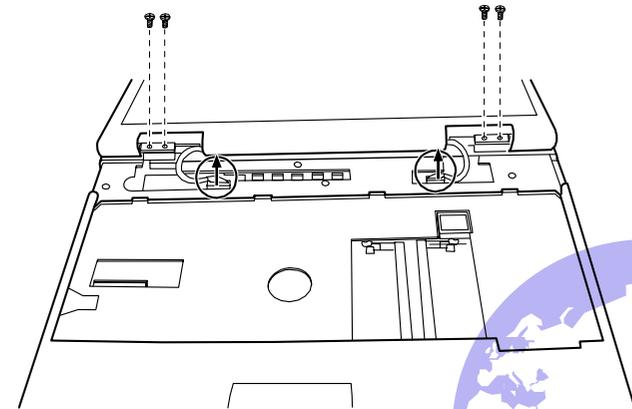

Figure 5-24. Unplugging two Cables and Removing Four Screws
1. Attach the LCD assembly to the base unit and secure with four screws on the hinges. Then reconnect the LCD cables to the system board. (Refer to Figure 5-24.)